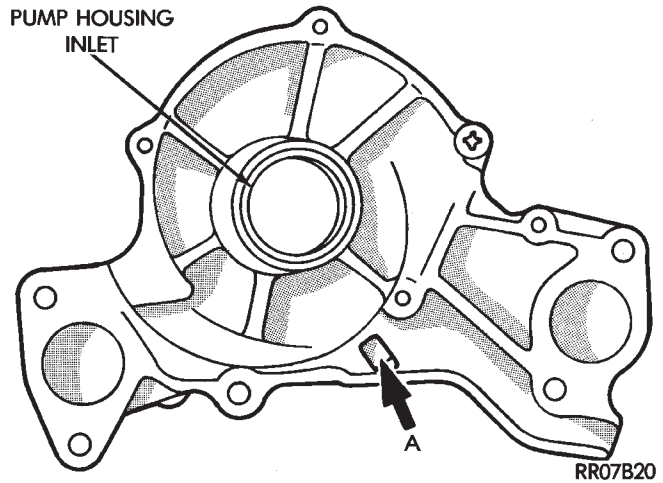

Fig. 4 Water Pump Inspection
- (1) Damage or cracks on the pump body.
- (2) Coolant leaks, if the shaft seal is leaking, evident by traces of coolant leaks from vent hole A in (Fig. 4).
- (3) Impeller rubs the inside of pump.
- (4) Loose or rough turning bearing.